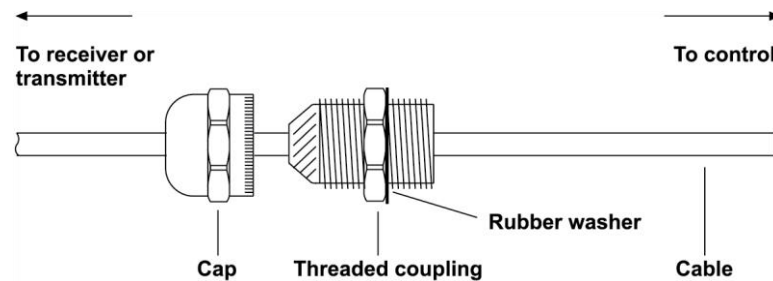

Figure 2-28. Cable Being Threaded through Top of Gland Nut and Threaded Coupling
6. Thread the receiver cable through the hole in the top of the plastic gland nut (see Figure 2-28), then through the hole in the tapered end of the threaded coupling. Slide both components well down the cable so they are out of the way.